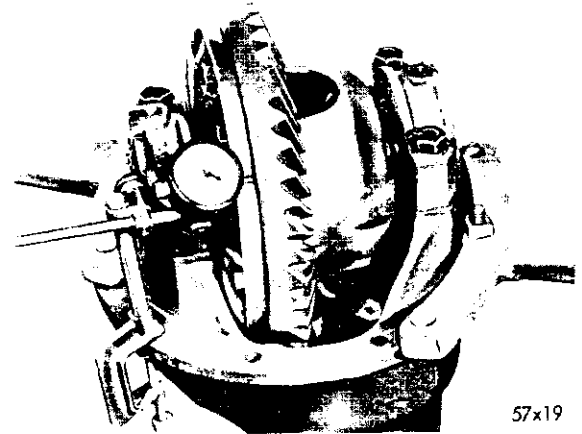

Fig. 8—Measuring Drive Gear Runout
(1) Mount the carrier in Stand DD-1014 and attach the dial indicator Tool C-430 or C-3339 to the differential carrier flange so the pointer of the indicator squarely contacts the back face of the ring gear (Fig. 8). Make certain there is no end play in the differential side bearings. If end play is evident, remove the adjuster lock and slightly loosen the bearing cap on the gear tooth side. Tighten the adjuster sufficiently to eliminate the end play.